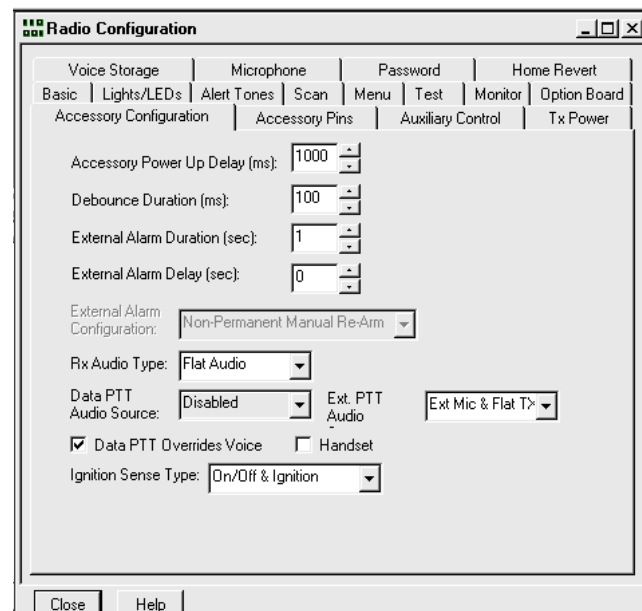

Figure 10-4. Radio Configuration, Accessory Configuration, Transmit Radio
6. Select “On/Off & Ignition”. Your screen should appear similar Figure 10-4.